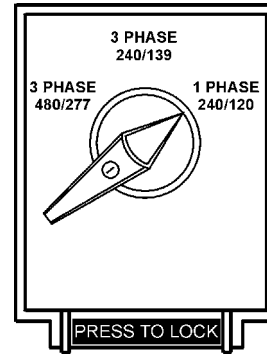

Figure 41. Voltage Selector Switch
- Place the **voltage selector switch** in the desired voltage position (Figure 41).